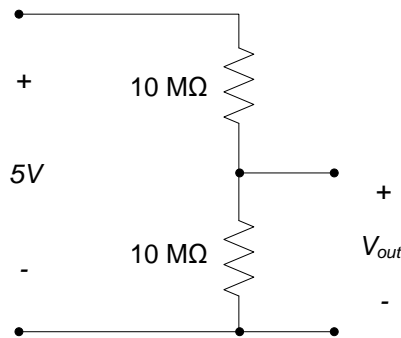

Figure 1. Circuit schematic.
Very large resistors are used in the voltage divider circuit of Figure 1. Due to these large resistances, measurement of the voltage V_{out} will likely result in measurement errors due to non-ideal voltmeter effects.
Analyze the circuit of Figure 1 to determine an expected value for the measured voltage V_{out} for the cases in which
Per section 2.5 of the text, a voltmeter can be modeled as an equivalent resistance R_M in parallel with the voltage being measured. Thus, the circuit of Figure 1, with the voltmeter resistance included, becomes as shown in the figure to the left below. The parallel combination of the voltmeter and the $10\text{M}\Omega$ resistor can then be represented as a single equivalent resistance R_{eq} as shown in the figure to the right below, where
From the above, it can be seen that if $R \gg R_M$, $R_{eq} \approx R$ and the measured V_{out} will be essentially the same as the V_{out} indicated in Figure 1. If, however, this condition is not true, the voltmeter's internal resistance can have a significant (and generally undesirable) effect on the voltage being measured.
- a) Construct the circuit of Figure 1. Measure the voltage V_{out} using your DMM. Using your pre-lab results, estimate the internal resistance of the voltmeter.